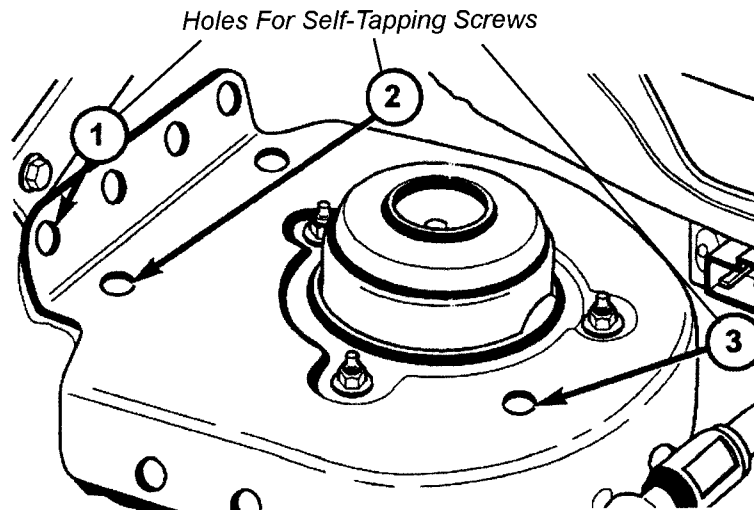

Fig. 4
13. Using a drill motor and a 7/32" drill bit, drill the 3 holes into upper strut tower and the inner load path beam through the three guide holes in the new cap (Fig. 4).